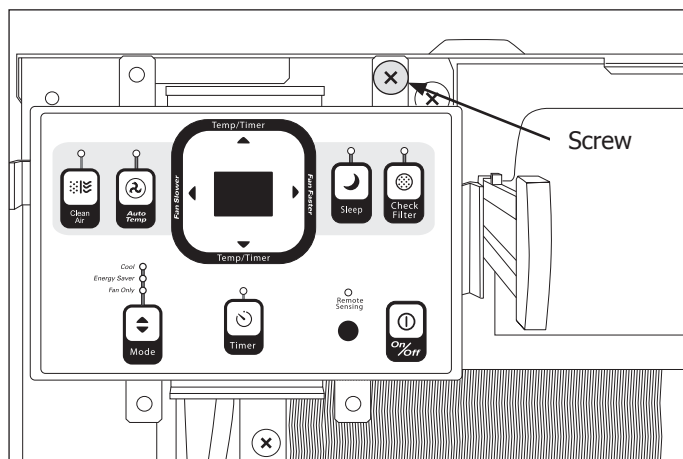

Figure 4-3.
3. Extract screw securing user interface to unit frame. (See Figure 4-3)